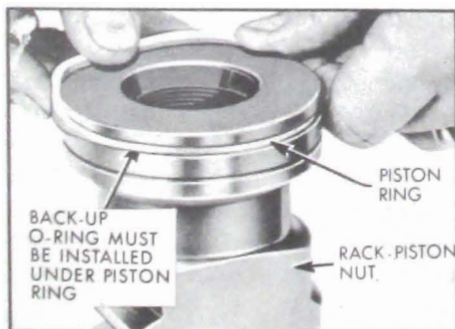

Figure 8-64—Installing Piston Ring on Rack-Piston Nut
2. Install new piston ring back-up O-ring in groove on rack-piston nut. Place a new piston ring over the back-up O-ring. See Figure 8-64.